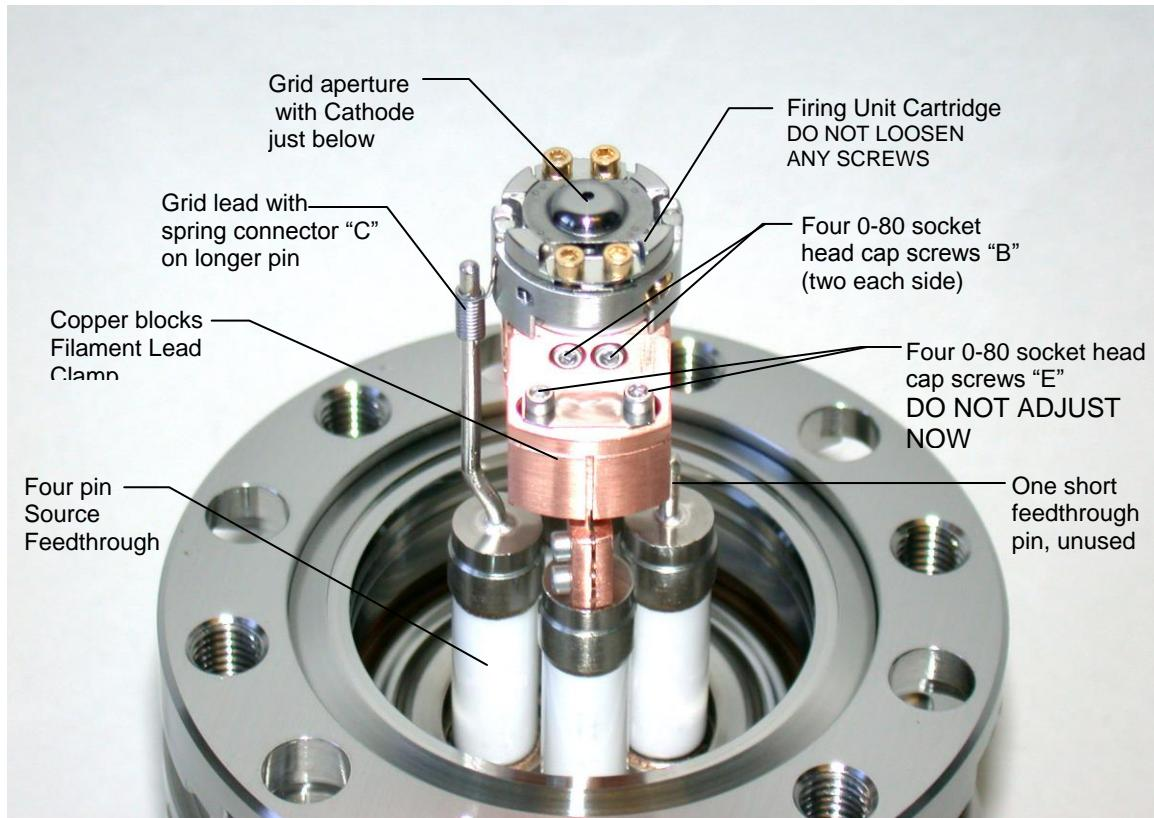

Fig. 6.3-3 EGG-3101 Firing Unit Cartridge in Filament Lead Clamp
- a. Using a 0.050" Allen wrench, loosen the four horizontal 0-80 socket head cap screws ("B" in Fig. 6.3-3) on two sides of the clamp near the top.
- b. Gently, pull off the complete Cartridge, while sliding the Grid lead spring connector ("C" in Fig. 6.3-3) off its long copper pin with tweezers.
- a. Insert the new/rebuilt cartridge into the top of the clamp (Fig. 6.3-4), fitting the two cathode base pins ("D" in Fig. 6.3-4) into the two holes in the center of the clamp, and at the same time, sliding the Grid spring connector ("C" in Fig. 6.3-3) onto the long feedthrough pin next to the clamp using tweezers. The short feedthrough pin is at High Voltage common, but is not used in the EGG-3101 gun.
- b. If necessary, adjustment for a slightly different pin spacing is possible with the four lower 0-80 socket head cap screws ("E" in Fig. 6.3-3) on the Filament Lead Clamp.
- c. Tighten the four horizontal 0-80 screws ("B" in Fig. 6.3-3) near the top of the clamp to secure the firing unit.